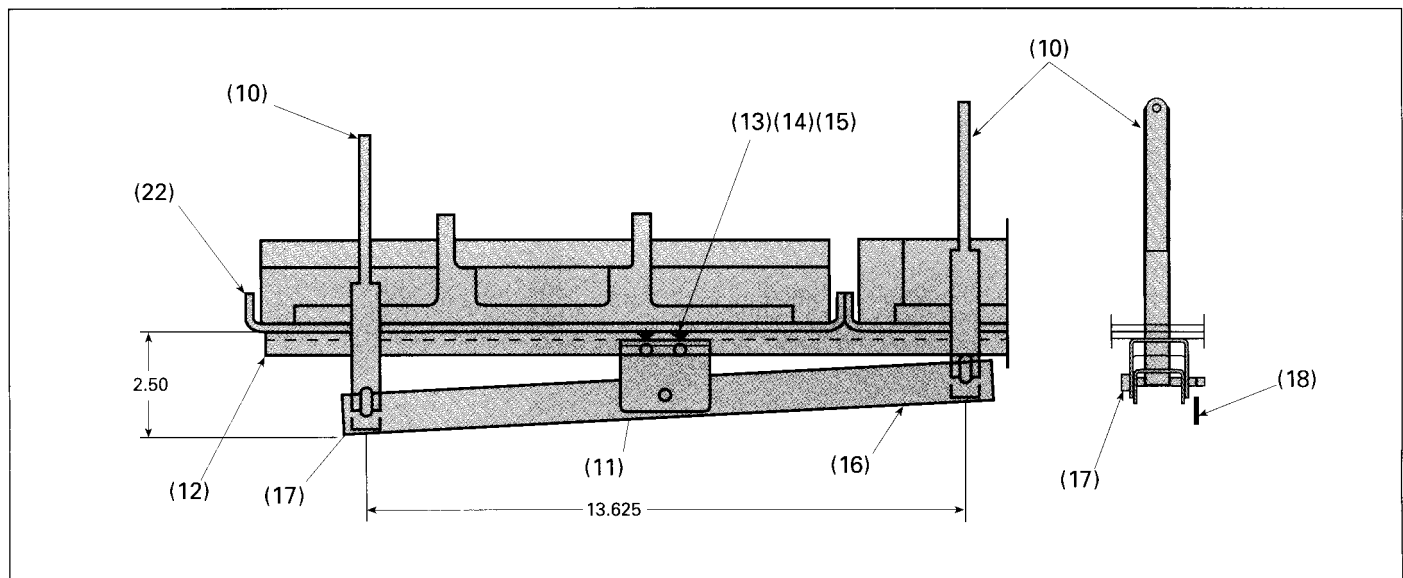

Figure 4
- M. Reference Fig. 4. Attach the bracket (Item 11) to the mechanical interlock mounting pan (Item 12) using the 10-32 flat head screws, (Item 13), lockwashers (Item 14) and nuts (Item 15) supplied. Torque to 32 lb-in. Temporarily install the rocker arm (Item 16) in the bracket to make certain that the plunger (Item 10) openings in the ends of the rocker arm align with the one inch diameter holes in the mounting pan. Adjust if necessary. Remove the rocker arm after alignment is confirmed.
- Q. Reference Fig. 4. Assemble the rocker arm, (Item 16), to the bracket, (Item 11). The plungers, (Item 10), will pass through the holes in the rocker arm.